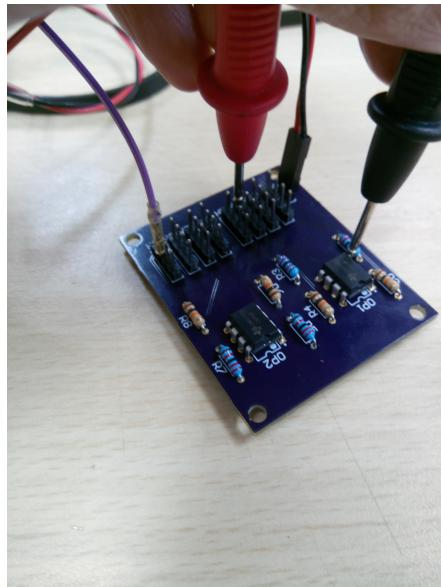

Figure 11: Voltage Divider step 8
9. Now that we know that each of the encoders will be powered by +5V correctly, we need to test the voltage division. Apply +5V to pin 2 and measure the output at pin 14 as shown in Figure 11. This value should read between 1.4V and 2.0V. It is important that it is strictly less than 2V, but slightly lower values are also okay. Resistor values can be changed if desired to make this closer to 2V.